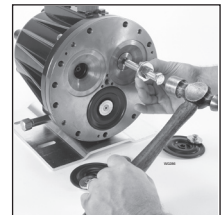

Figure 8
2. Carefully tap hex end of Plunger Guide Lifter to drive valve plunger out the back of the plunger (Figure 8).